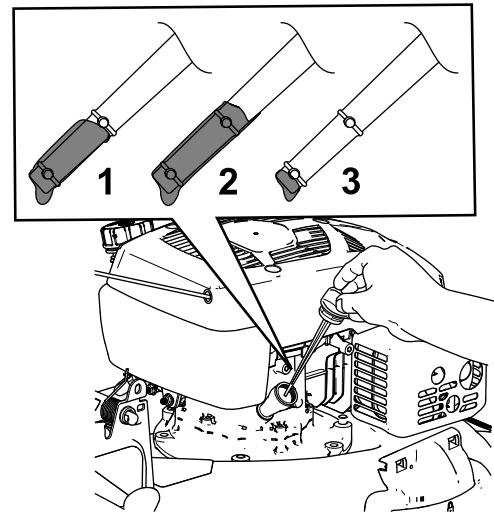

Figure 13
5. Read the oil level on the dipstick (Figure 13).
2. Remove the dipstick (Figure 13).